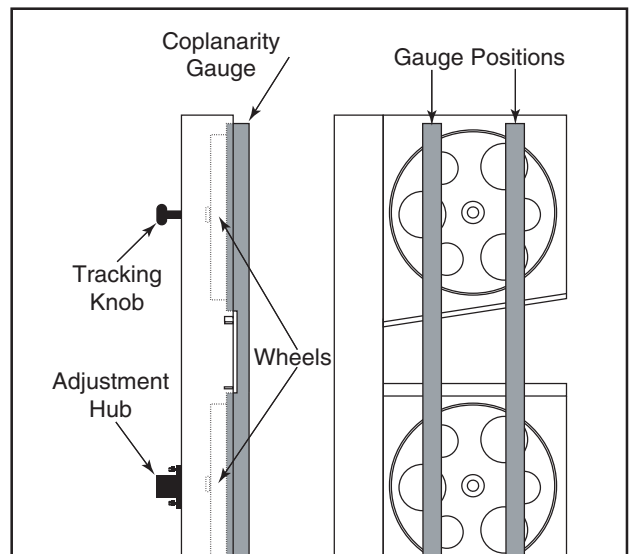

Figure 96. Checking for coplanarity.
7. Place your coplanarity gauge up against both wheels in the positions shown in **Figure 96**.